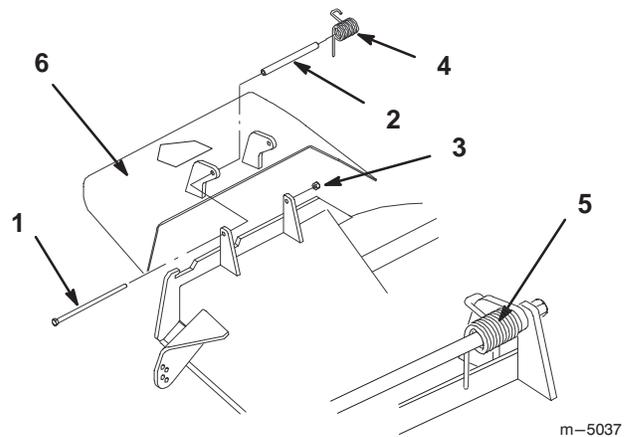

Figure 72
1. Remove the locknut, bolt, spring and spacer holding the deflector to the pivot brackets (Fig.72). Remove damaged or worn grass deflector.
2. Install new grass deflector, with existing locknut, bolt, spring and spacer, as shown in figure 72.
Note: Make sure the spring is installed as shown in figure 72.